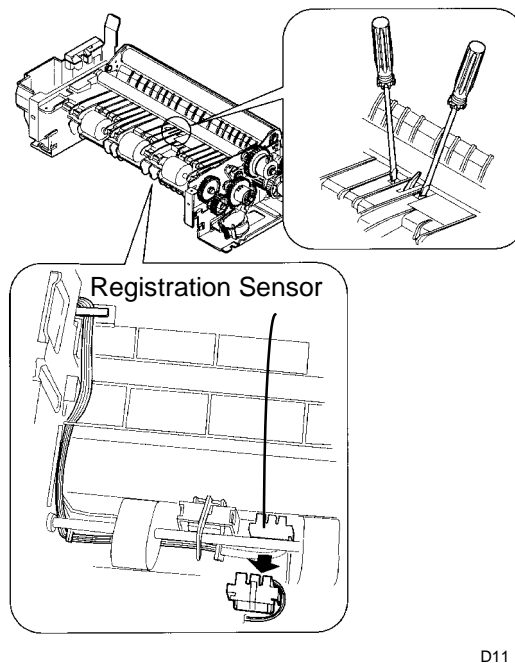

Figure 1. Removing the Registration Sensor
2. (Figure 1): Unclip and carefully remove the Registration Sensor.